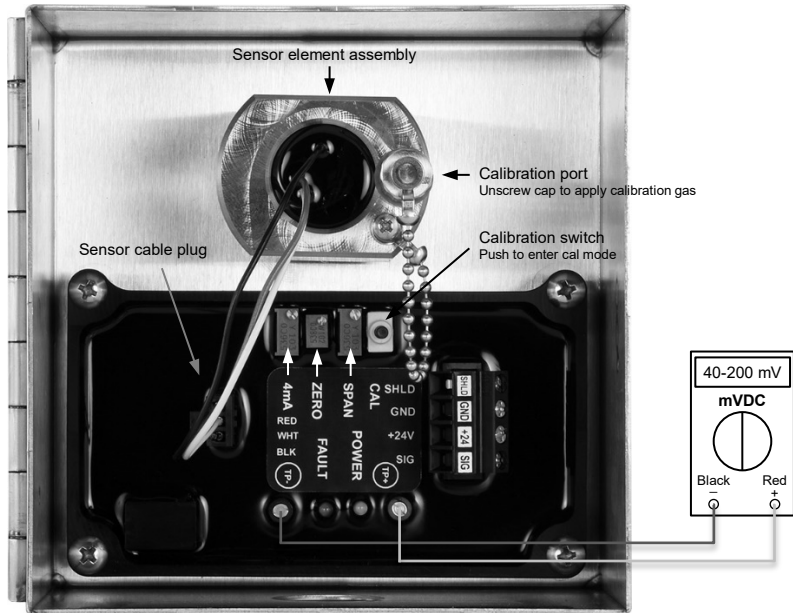

Figure 4: Transmitter and sensor assembly
The GG-VL2-NH3 sensor comes factory calibrated and should require only minimal adjustments after installation. Calibration should be performed every six months. There are two pots on the preamp that are used for calibration (see **Figure 4**).
- Adjust the zero pot until the sensor outputs 40 mVdc from Test [-] to Test [+] (see **Figure 4**).
Span Calibration: Do not adjust the span pot without certified calibration gas! If span adjustment is required, use the following procedure (see **Figure 4**):
When the sensor becomes faulty, a replacement sensor element can be obtained from Calibration Technologies. To replace the sensor, refer to **Figure 4** and the following procedure.